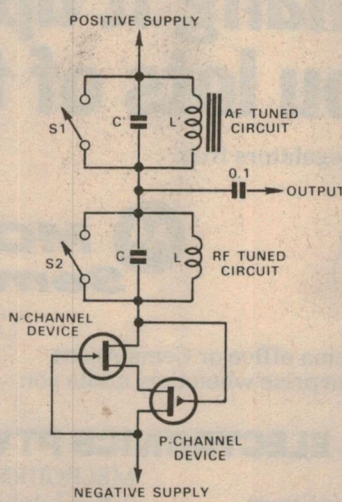

FIG. 4
Fig. 4: shows the final circuit, in which both audio frequency (AF) and radio frequency (RF) circuits are included in series with one another. Output can be either AF, RF or modulated RF.
The circuit was then modified to the form shown in Fig. 4, in which both audio frequency and radio frequency resonant circuits are included in series with one another. The resultant output consisted of a radio frequency oscillation amplitude modulated at the audio frequency. Either the radio frequency or the audio frequency tuned circuit could be shorted out by one of the switches so that an unmodulated audio or radio frequency output could be obtained.
This type of circuit is very simple and convenient for use when servicing radio receivers. A short length of wire connected to the output of the circuit will provide adequate coupling to a radio receiver which is situated fairly near to the wire. Audio signals must be directly coupled to the audio section of the receiver, however. If used for IF alignment, it may also be necessary to place the output lead from the circuit very close to the IF stages of the receiver to ensure the coupling is adequate, but when the IF stages are nearly aligned, the wire connected to the output of the Fig. 4 circuit can be moved somewhat farther away from the IF stages.
The writer formed the opinion that the output from the Fig. 4 circuit was fairly pure, the harmonic responses appearing no larger than those from a typical commercial signal generator. However, this was only my general impression, and no harmonic measurements were carried out to check this.